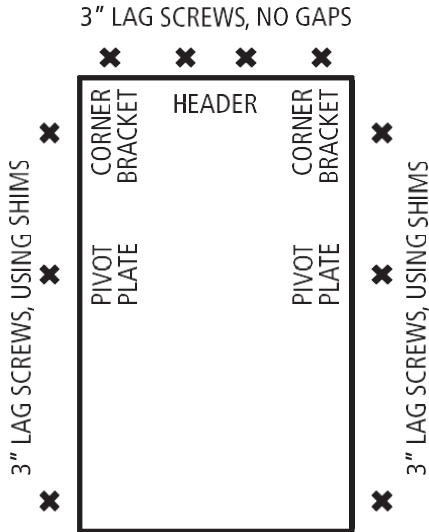

FIGURE 8: Aluminum and Wood series
A. The ladder comes with pre-drilled holes for permanent installation at locations shown in Figure 8. Shim, when necessary to fill space between ladder frame and rough opening, at pre-drilled locations. Using  $3/16$ " drill bit, drill 3" deep pilot holes through shim and into ceiling joists and header.